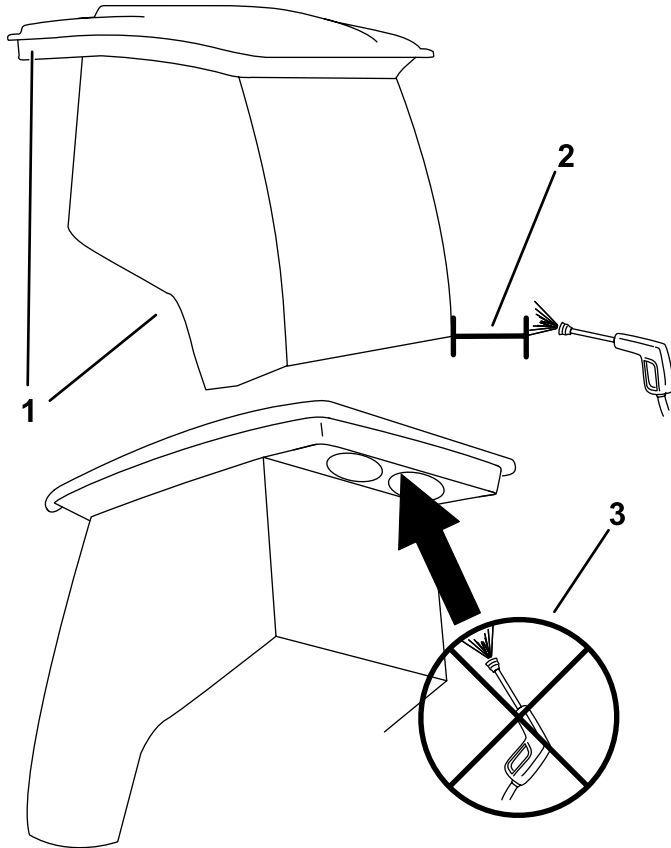

Figure 82
**Important:** Use care around the cab seals (Figure 82). If you are using a pressure washer, keep the washer wand at least 0.6 m (2 ft) away from the machine. Do not use the pressure washer directly on the cab seals or under the rear overhang.